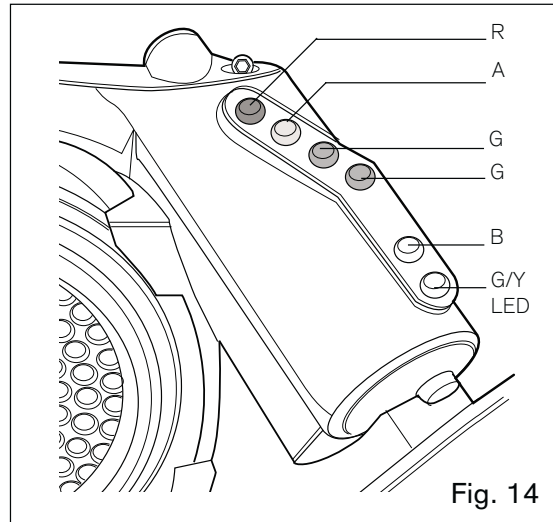

Fig. 14
Up to approximately 45 seconds after the start of the self check, all six HUD LEDs (Fig 14) will flash twice to indicate that the Sentinel 7000 is communicating with the HUD.
- ◆ The HUD red LED (Fig 14) will flash intermittently.
Low main battery – A low battery icon (Fig 4) will be displayed on the user interface or the G/Y battery LED (Fig 14) will flash yellow.